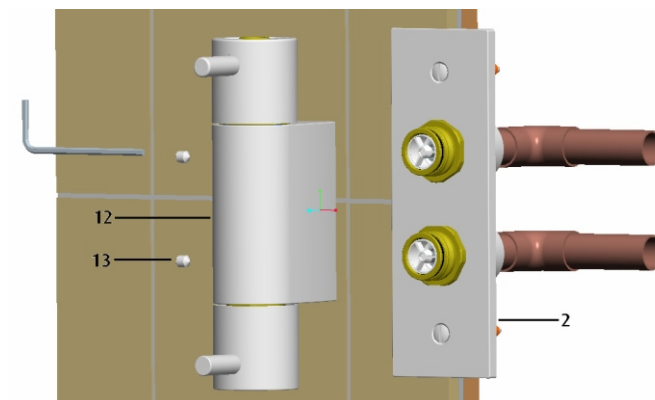

Fig. 6
4.2.1.7 Push shower body (12) onto back plate (outlet pointing up) and secure using grub screws (13) and hexagon key as shown in Fig.6, page 8.